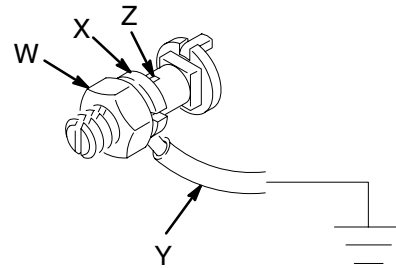

Fig. 1
1. *Pump*: loosen the grounding lug locknut (W) and washer (X). Insert one end of a 12 ga. (1.5 mm²) minimum ground wire (Y) into the slot in lug (Z) and tighten the locknut securely. Connect the other end of the wire to a true earth ground. See Fig. 1. Order Graco Part. No. 237569.